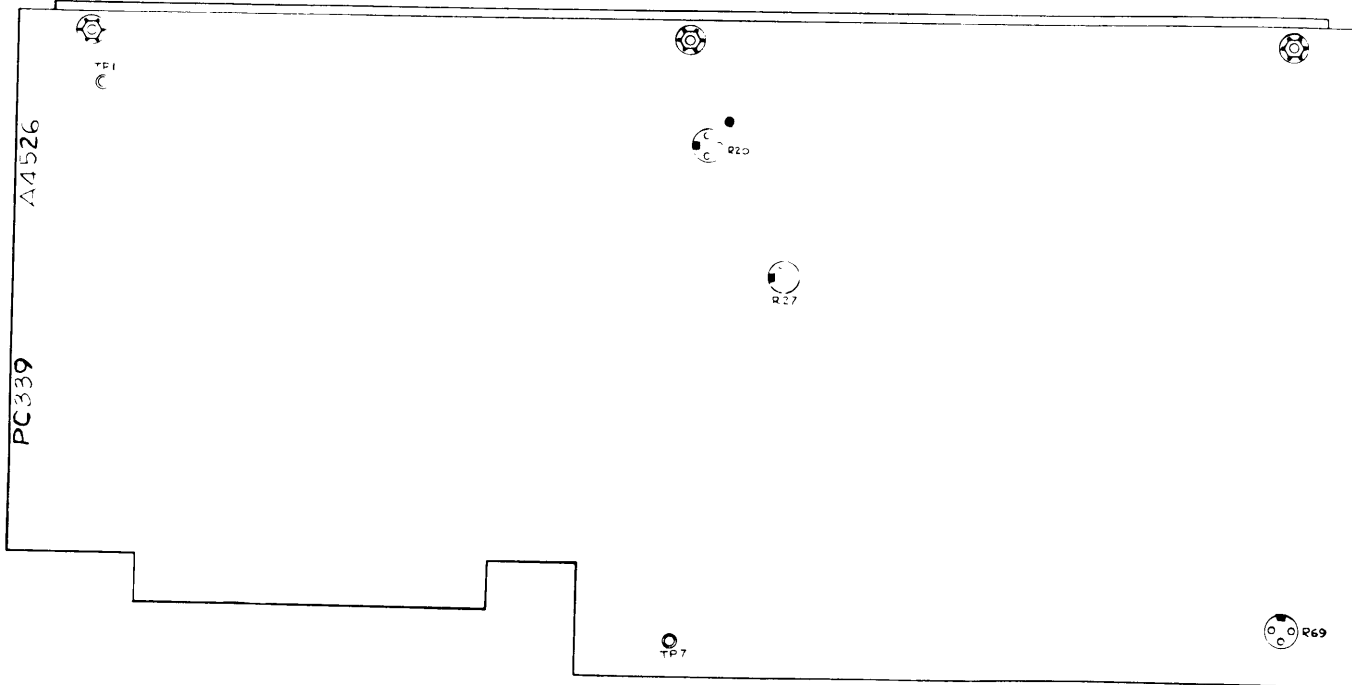

Figure 5-7. Carrier Generator Z109, Adjustments
- (1) Connect scope and counter to J106 pin 13.
- (2) Place 100 kHz, 10 kHz, 1 kHz and 100 Hz selector switches to "0". The signal should be 0.2 volt P-P minimum and the frequency should be 10.0000 MHz.
- (3) Rotate the 100 Hz, 1 kHz, 10 kHz and 100 kHz selector switches to 9. The frequency should increase to 10.9999 MHz in 100 Hz, 1 kHz, 10 kHz and 100 kHz steps. The amplitude in each switch position should be 0.2 volt P-P minimum.
h. CARRIER GENERATOR Z109. (See figure 5-7.)
- (1) Adjust R27 fully CCW, place STANDBY-ON switch to ON and MODE switch to AM position.
- (2) Connect scope and counter to TP1. The signal should be 1 MHz, 10 volt P-P.
- (3) Connect scope and counter to TP4. The signal should be 250 kc, 1.4 volt P-P (approximately).
- (4) Connect scope and counter to TP7. The signal should be 2.75 MHz. Adjust R47 for 70 millivolts